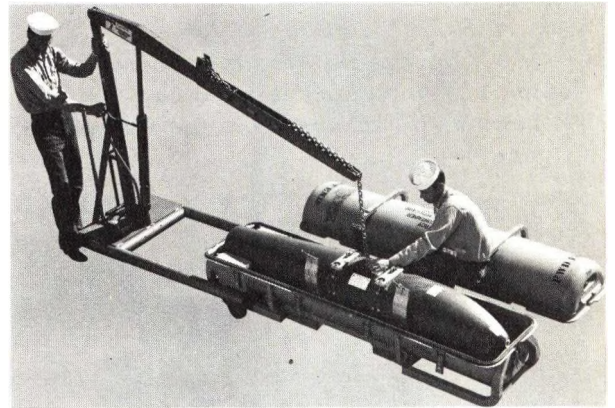

Figure 4-2. Chain Hoist Attached to Dispenser
4. Place chain hoist directly over weapon dispenser and connect hoisting hook, with safety device, to hoisting lug, figure 4-2.